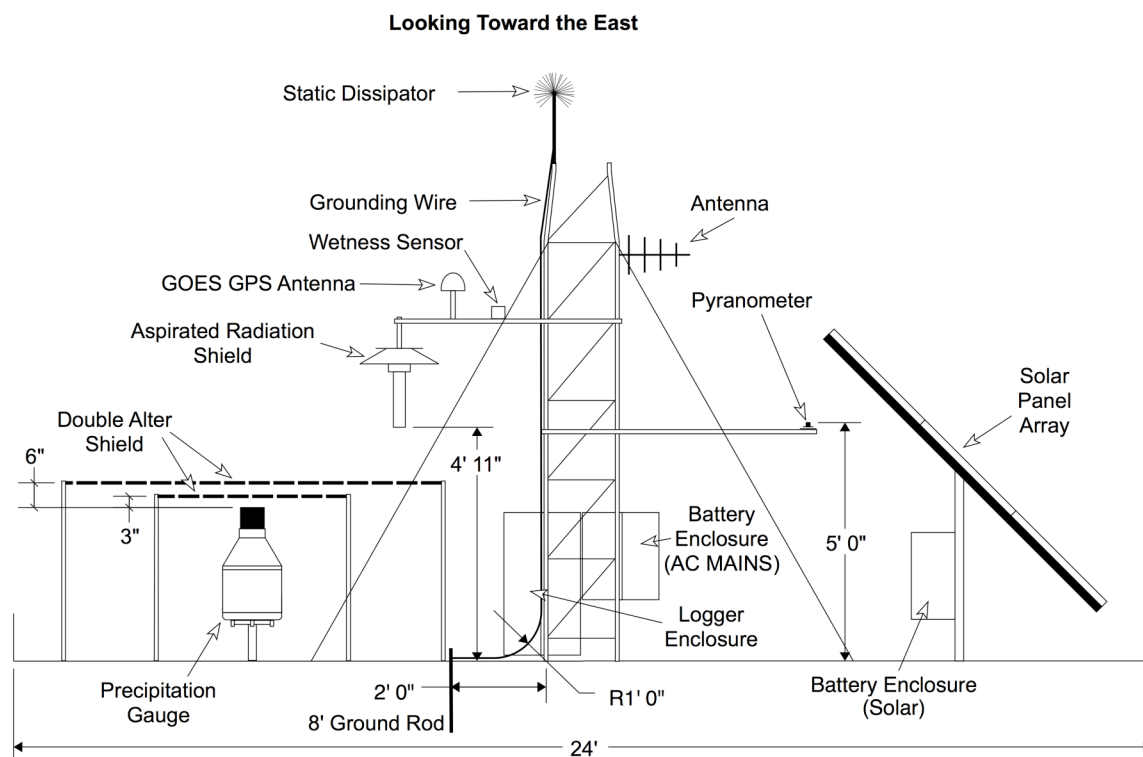

Figure 1. Profile view of a station plot that measures 24-by-24 feet and has a 3-meter tower.
The following figures illustrate the proper placement of equipment in a 24-by-24-foot plot (Note: Refer to Figures 1 through 3 below for the positions and configuration of the equipment). In addition, these procedures cover installation for potential sensors that could be installed at a 3-meter tower site. Not all potential sensors will be installed at every site.
26. Attach the aspirated radiation shield for the air temperature and relative humidity sensor(s) to the end of its mounting arm, as shown in Figures 1 and 2. Mount the arm to the west-facing flat edge of the tower, with the shield's air inlet 4 feet 11 inches (1.5 meters) above the level of the ground directly below. Install the air temperature sensors and the relative humidity sensor, if provided, and connect them to the logger. Coil and secure any excess cable to the tower near the logger enclosure.